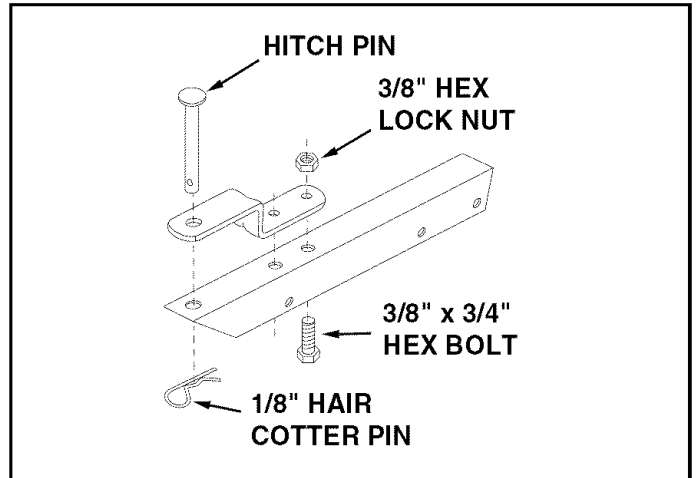

FIGURE 13
- Assemble the hitch bracket to the hitch extension bracket using two 3/8" x 3/4" hex bolts (inserted from the bottom) and two 3/8" hex lock nuts. See figure 13.
- Assemble the hitch pin through the hitch bracket and the hitch extension bracket and secure with the hair cotter pin. See figure 13.